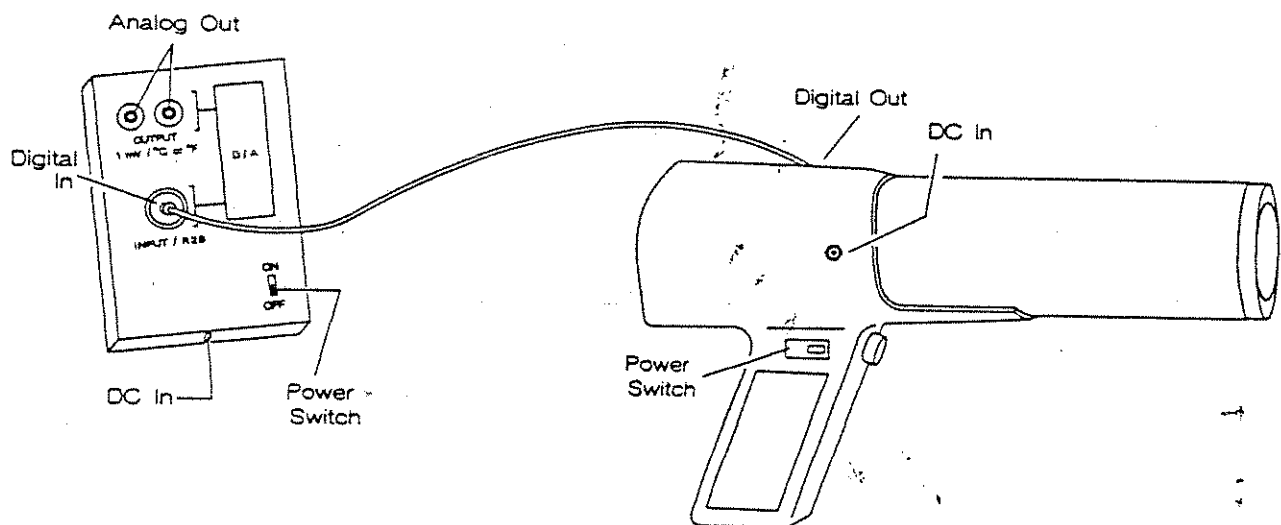

Figure 2. Display and Controls
The IR Thermometer requires four basic operations to ready it for normal use: Power-on, emissivity select, scale select, and display select. To set-up the instrument (see Figure 2):
4. Set the Interface ON/OFF switch to 'On'. If desired, connect the AC adapter cord to the DC IN jack on the Interface and plug adapter into an AC source (see Figure 2).